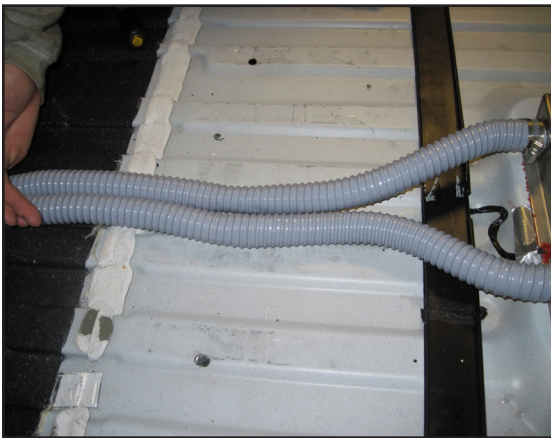

Figure 22. Route Hoses Straight Back Toward Cargo Area
4. Replace the van floor mat being sure to route the two 1" diameter hoses side-by-side and straight back toward the cargo area of the van (see Figure 22).